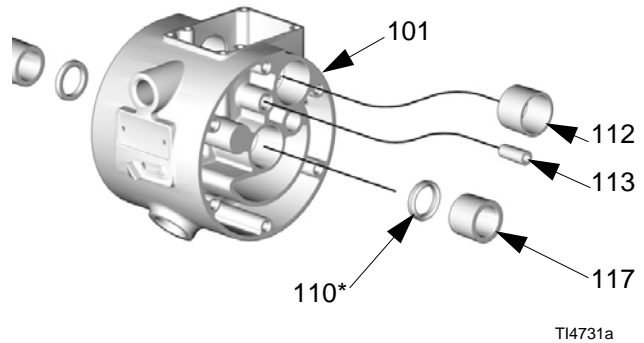

FIG. 24
4. With both fluid covers removed, using two 5/8 in. wrenches hold the wrench flats (Y) on the plates of each diaphragm assembly and loosen. One diaphragm assembly will come free and the other will remain attached to the shaft.
6. Remove plate (444) with bolt (143) installed, diaphragm (446), backer (447) if present, and plate (445).
8. Inspect the diaphragm shaft (121) for wear or scratches. If it is damaged, inspect the bearings (117) in place. If the bearings are damaged, refer to **Bearing and Air Gasket Removal** on page 28.
9. Reach into the center housing (101) with an o-ring pick and hook the u-cups (110), then pull them out of the housing. This can be done with the bearings (117) in place. See FIG. 24, page 28.
1. Install the shaft u-cup packings (110*) so the lips face **out** of the housing (101). Lubricate the packings. See FIG. 24, page 28.
2. Apply high-strength (red) Loctite® or equivalent to attach the bolt (446a) to the diaphragm (446), if needed. Assemble the air side plate (445) onto the diaphragm (446). The wide, radiused side of the plate must face the diaphragm. Apply medium-strength (blue) Loctite® or equivalent to the threads of the diaphragm assembly. Screw the assembly into the shaft (121) hand tight.
3. Grease the length and ends of the diaphragm shaft (121). Insert the shaft/diaphragm assembly into one side of the pump.
8. If you removed the diaphragm shaft bearings (117) reach into the center housing (101) with an o-ring pick and hook the u-cups (110), then pull them out of the housing. Inspect the u-cups. See FIG. 24. Replace parts as needed.